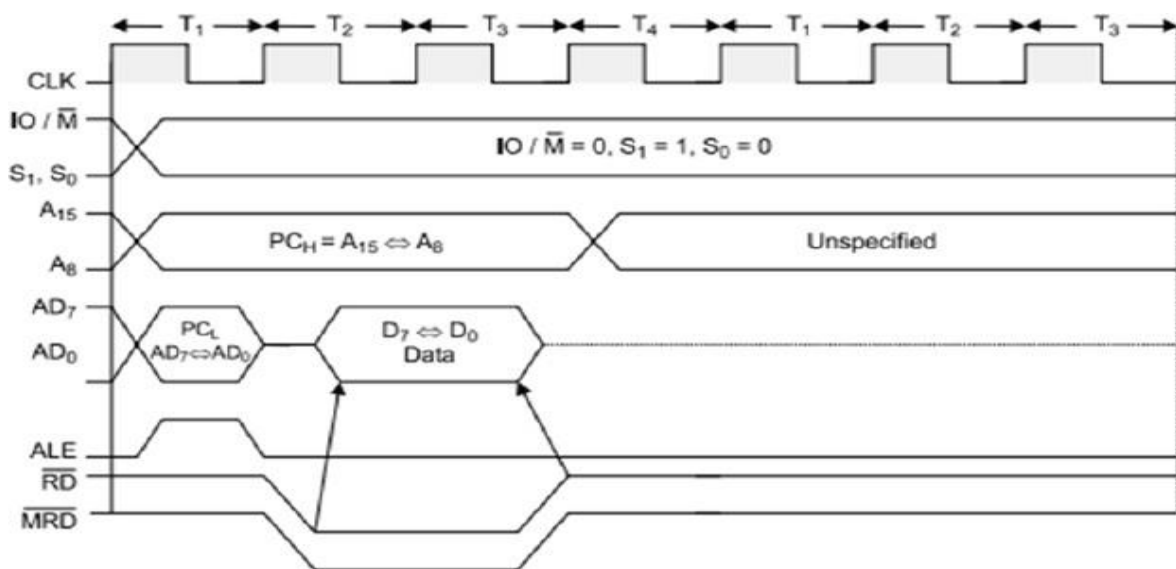

Fig 11. Timing Diagram of Memory Read
- During T1, A8-A15 contains higher byte of address. At the same time ALE is high. Therefore Lower byte of address A0-A7 is selected from AD0-AD7 as shown in fig 11.